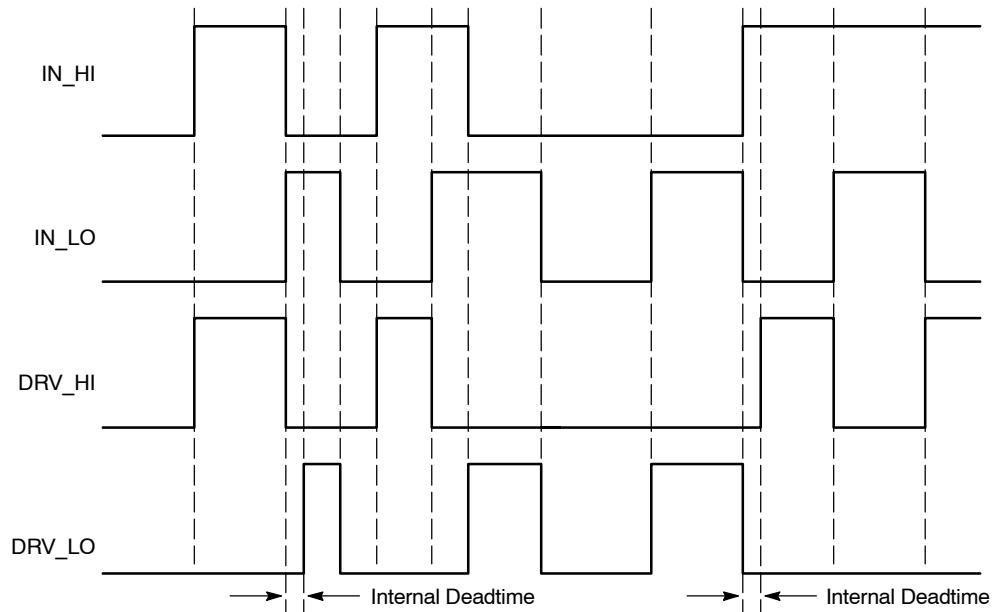

Figure 10. Input/Output Cross Conduction Output Protection Timing Diagram (B Version)
4. Version B integrates a dead time in order to prevent any cross conduction between  $DRV\_HI$  and  $DRV\_LO$ . See timing diagram of Figure 10.